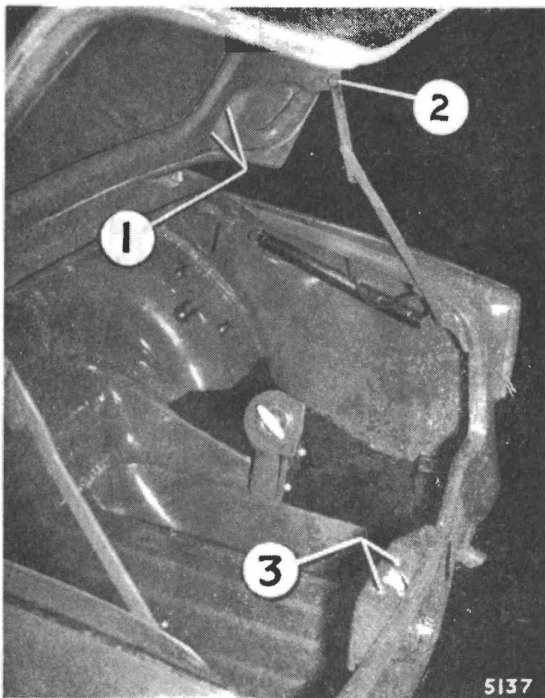

Fig. 30. Boot lid and lock attachment points (Rapier)
**BOOT LID—To remove Rapier (Fig. 30)**
Remove two screws with their washers (3), (Fig. 30). The lock can now be removed by pulling out from the inside of the boot.